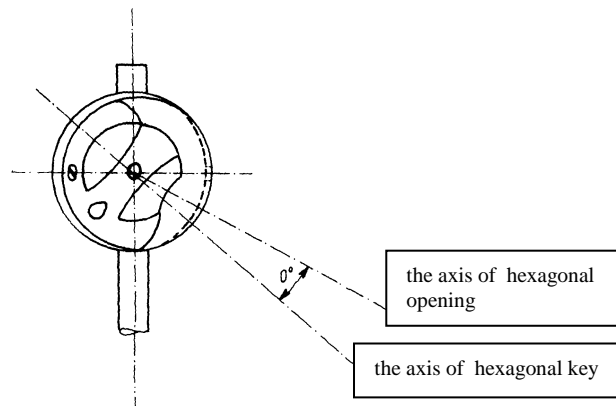

Fig. 5A. The rear view - the angle in vertical plane
- 2. *The axis of the hexagonal opening and the axis of the hexagonal key do not lie in the same vertical plane (see Fig.5A).***